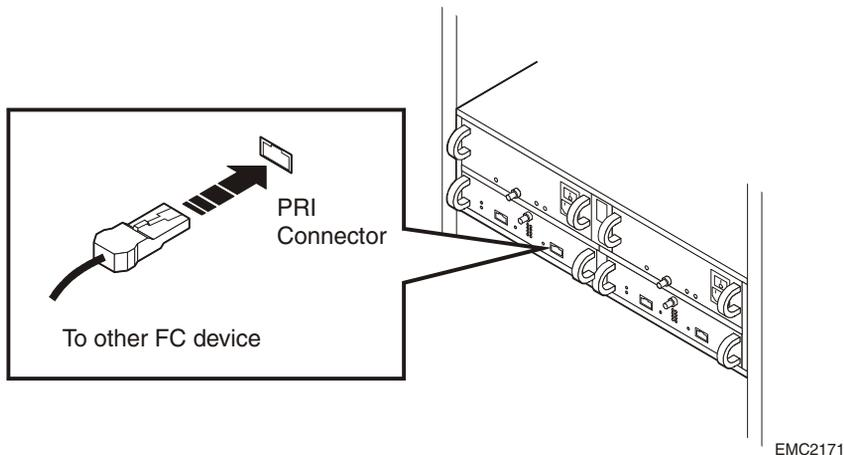

Figure 2-4 Connecting a Disk Enclosure to Another FC Device
4. Attach the copper cable from the external device (storage processor or another DAE2) to the PRI connector as shown in Figure 2-4. If you are continuing the loop to another DAE2, attach a cable from the EXP connector to the PRI connector in the next DAE2.